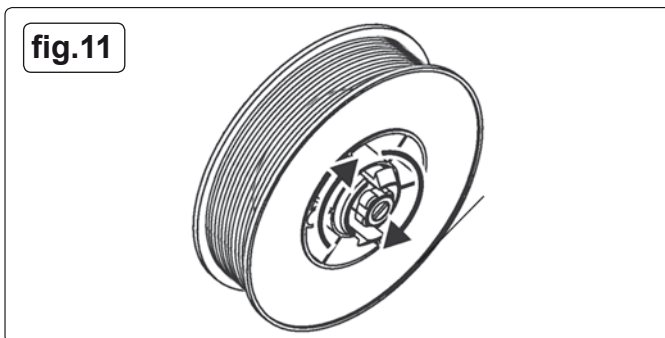

fig.11
- 3.8.2 Rotate the reel of wire anticlockwise whilst tightening the adjuster in the centre of the reel holder until a slight braking pressure can be felt. See fig.11.
It is essential that the clutch is adjusted correctly. Once the wire is fed through the torch, switch on the machine and set the wire speed and voltage switch to maximum. Depress the torch switch and release quickly. If spool overruns it indicates that the clutch is too loose. Tighten the clutch (located in the centre of the wire spool holder (fig 11), and test the machine as above until the wire stops over running.